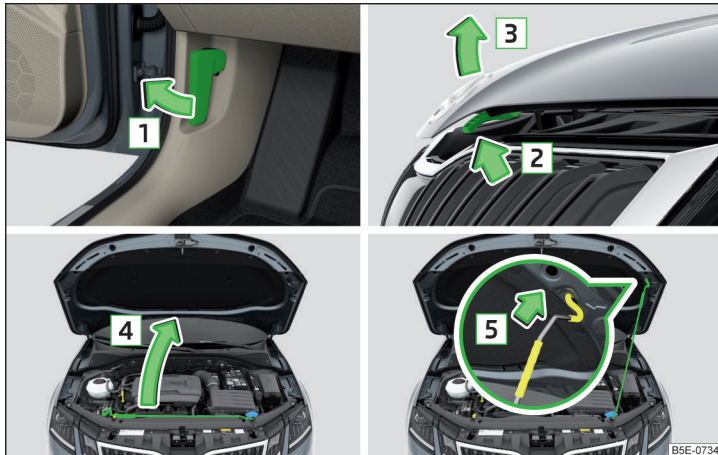

Fig. 315 Opening the bonnet
- › Open the front door and pull the release lever below the dash panel in the direction of arrow **1** ▶ Fig. 315.